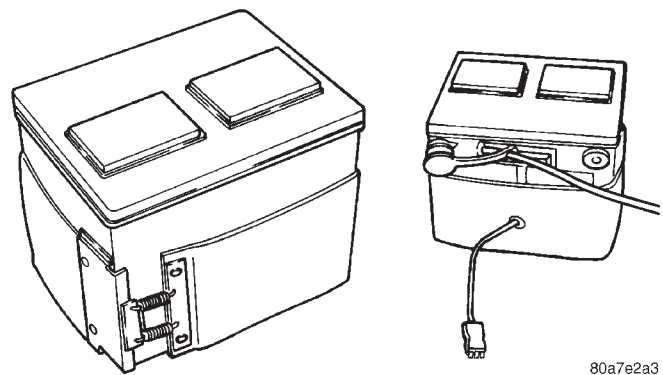

Fig. 15 Battery with Blanket Heater
(3) Turn steering wheel to the full left position.
(4) Twist the four plastic screws one quarter turn to release shield.
(5) Remove shield.
(6) Disconnect battery blanket heater cord, if equipped (Fig. 15).
(7) Remove battery negative cable followed by the battery positive cable.
(8) Remove bolt attaching the battery strap to the battery hold down bracket. Remove hold down bracket bolt.
(9) Slide battery to rear of tray and lift over lip. Use care not to tip battery so that the acid will not spill out.
(10) Remove battery.
(11) Remove battery blanket heater if equipped (Fig. 15).